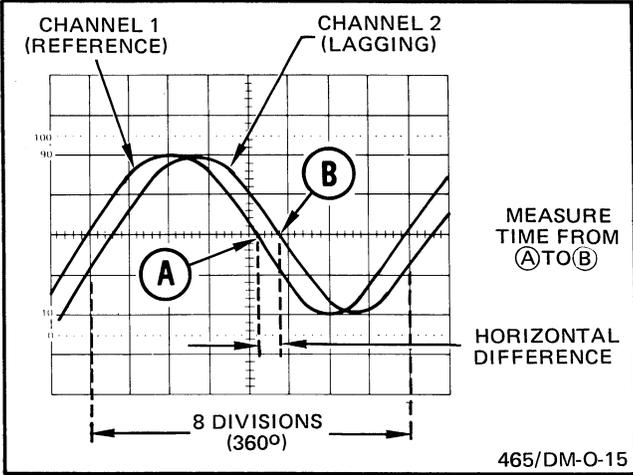
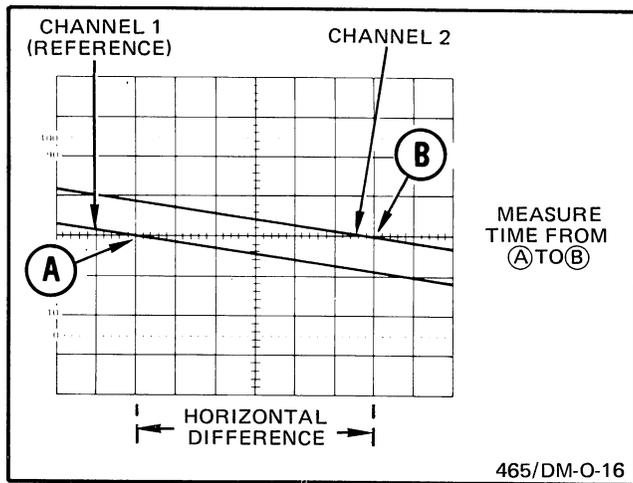

Figure 18. Phase difference.
Figure 19. High-resolution phase difference.
9. Position the displays and adjust the A and B SEC/DIV Variable control so that one reference-signal cycle occupies exactly 8 horizontal graticule divisions at the 50% rise-time points (see Figure 18). Each division of the graticule now represents 45° of the cycle (360° ÷ 8 divisions), and the horizontal graticule calibration can be stated as 45° per division.
**EXAMPLE:** The horizontal difference is 0.6 division with a graticule calibration of 45° per division as shown in Figure 18.
**EXAMPLE:** If the sweep speed were increased 10 times with the magnifier (X10 Magnifier out), the magnified horizontal graticule calibration would be 45°/division divided by 10 (or 4.5°/division). Figure 19 shows the same signals illustrated in Figure 18, but magnifying the displays results in a horizontal difference of 6 divisions between the two signals.